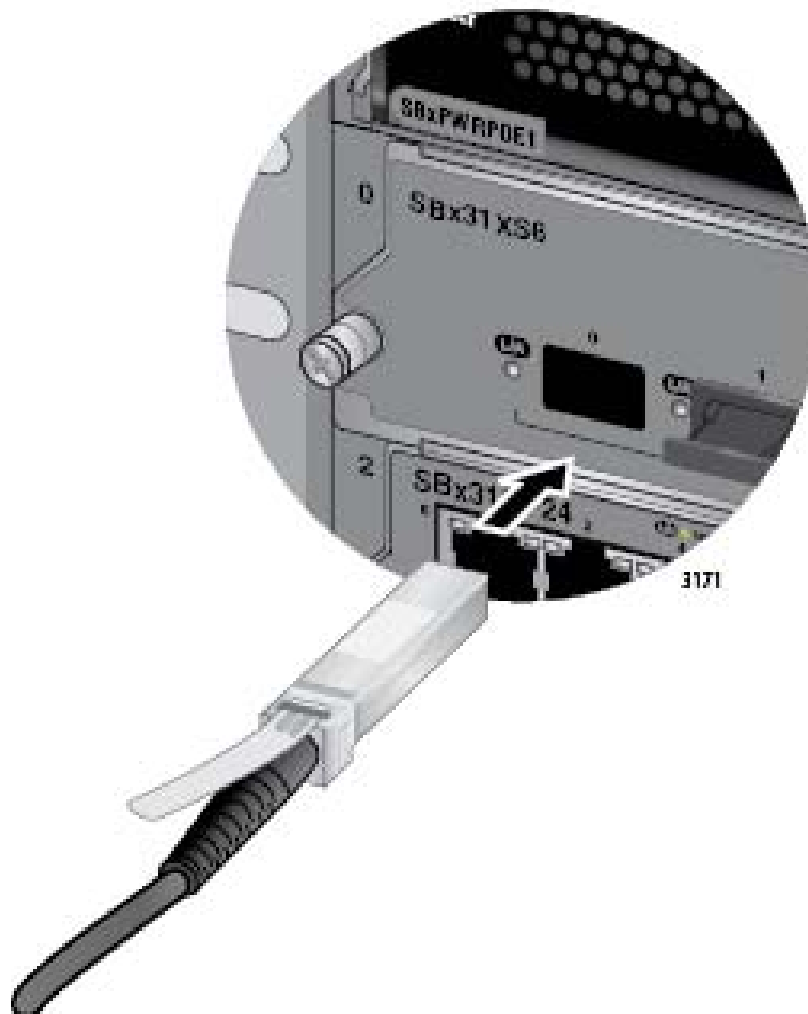

Figure 98. Installing the AT-SP10TW Cable in the AT-SBx31XS6 Line Card
3. Slide the connector into the slot until it clicks into place, as shown in Figure 98 on page 160.